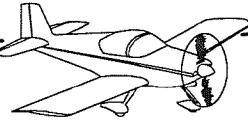

**FIGURE 3: TRIMMING THE E-614 COUNTER WEIGHTS**
Step 8: Remove the material indicated by the shaded areas in the left drawing of Figure 3 from all four E-614 Counterweights. Notice that the two holes are closer to the bottom edge in the drawing, so be sure to trim the weight accordingly.